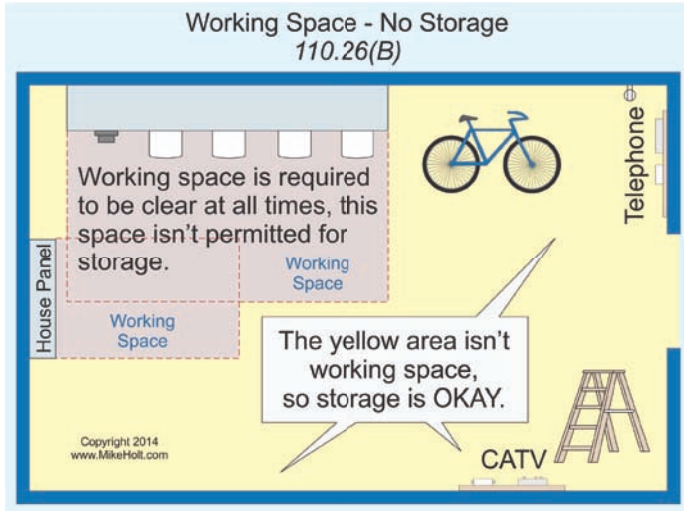

Figure 110-18
**(B) Clear Working Space.** The working space required by this section must be clear at all times. Therefore, this space isn't permitted for storage, **Figure 110-18**. When normally enclosed live parts are exposed for inspection or servicing, the working space, if in a passageway or general open space, must be suitably guarded.